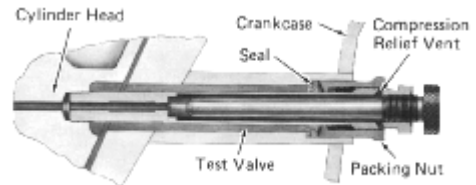
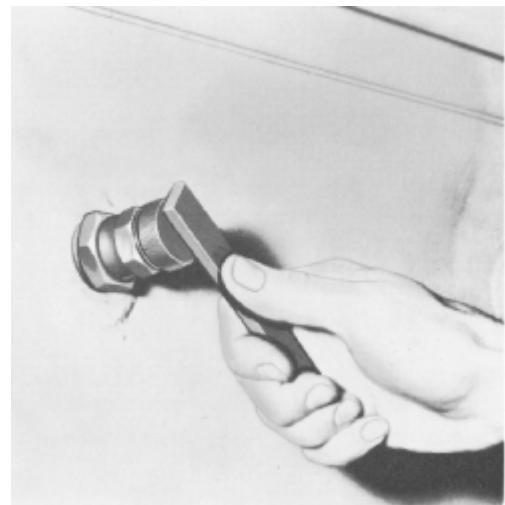
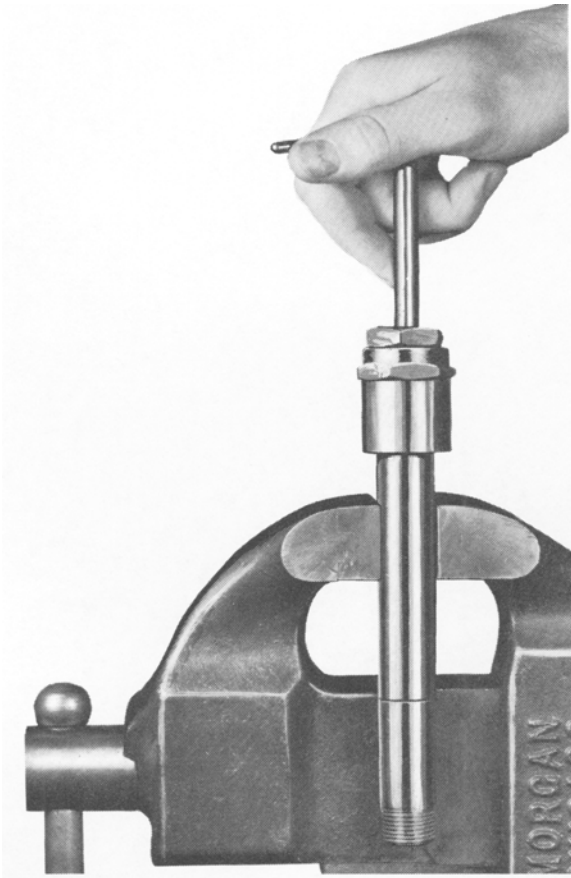

Fig. 2-32 - Cylinder Test Valve
Fig. 2-33 - Test Valve Wrench
Fig. 2-34 - Reaming Test Valve Seat
Cylinder test valves, Fig. 2-32, are provided on the engine at each cylinder. Any time maintenance or inspection is performed, the valves are opened to relieve compression, reducing the effort required to rotate the crankshaft. With the test valves open, fuel and coolant leaks can be detected by fluid discharge at the valves while the engine is being barred over. The cylinder test valve is inserted in a housing within the crankcase and screwed into the cylinder head. A cylinder test valve wrench, Fig. 2-33, is used to open and close the valves.
1. If a cylinder test valve is leaking, check that packing nut, Fig. 2-32, has been torqued to 81-88 N-m (60-65 ft-lbs). If nut has been overtightened, change seal, Fig. 2-32, and correctly torque packing nut. Should valve continue to leak, remove the valve from the engine and ream the valve seat as shown in Fig. 2-34.